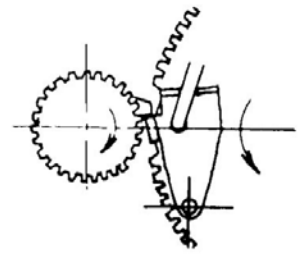

Fig. 4
- When playing ends and the pick-up cartridge enters the lead-out groove which is spaced out, the engagement advances more than it is returned by the projection. Because of this, the engagement is pressed by the projection as shown in Fig. 4, causing the main gear to turn and engage with the turntable spindle gear. Thus the change cycle is started.